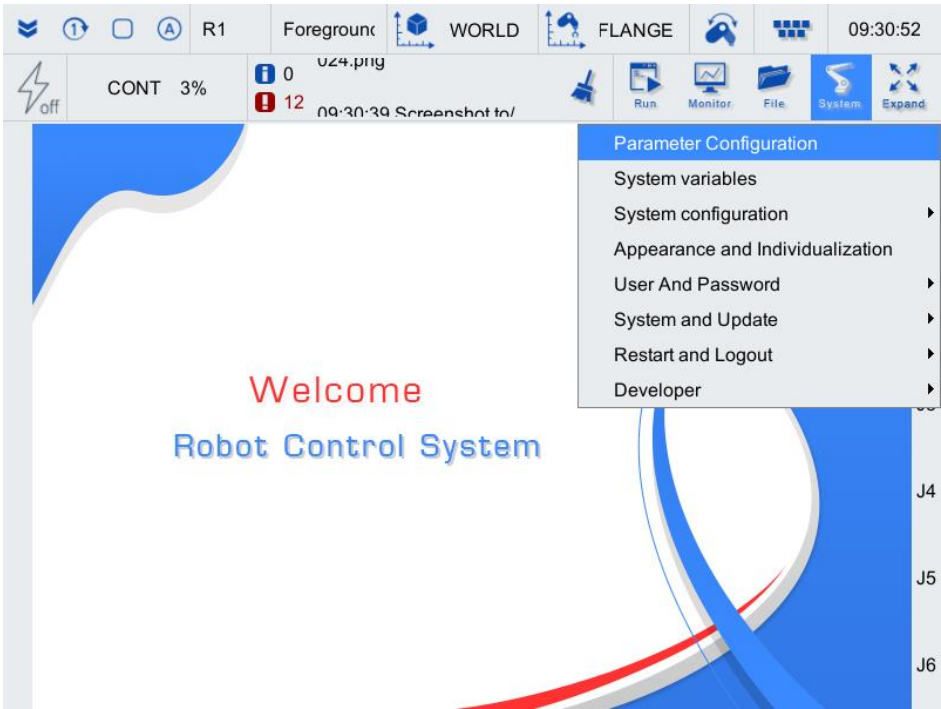

Figure 5-11 System related dropdown list
Step2. Click on [System/Parameter Configuration] in the upper right corner menu area, as shown in in Figure 5-11.